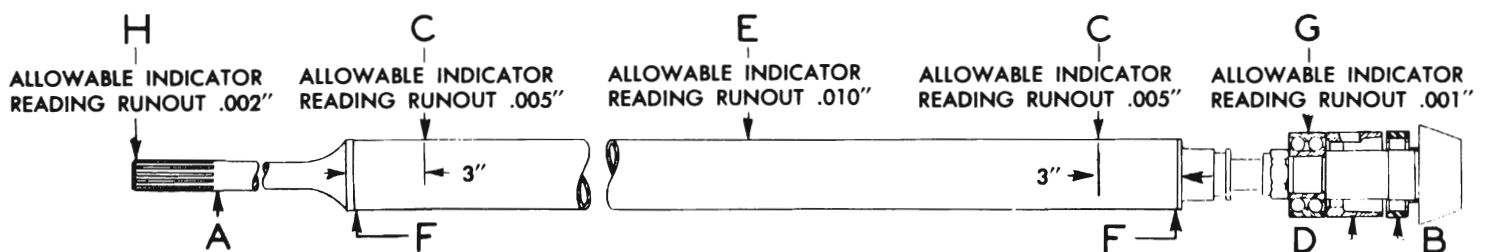

Figure 5-21—Propeller Shaft Run-Out Specifications
1. Support the assembly on V-blocks placed under the machined section just to rear of splines at "A" and under the rear (roller) bearing at "B". See figure 5-21.